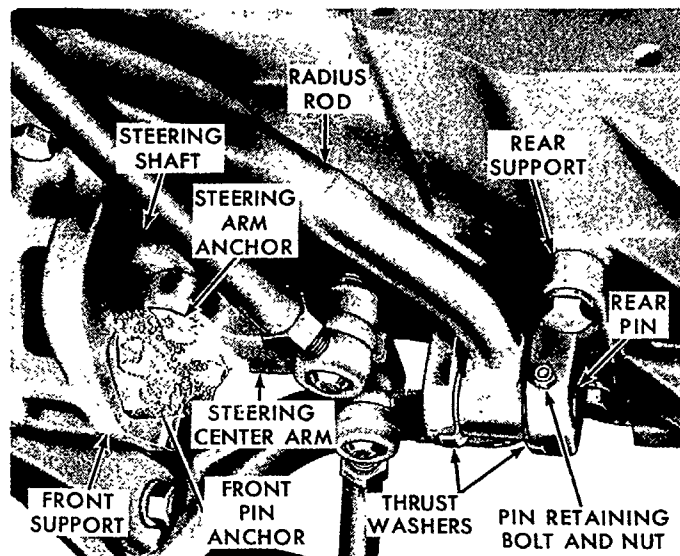

Figure 28
4. Bend the corners of the steering arm anchor, Figure 28, away from the bolt heads and remove the steering center arm-to-steering-shaft bolts and anchor.
3. Place the dust seals on the threaded ends of the connecting rod assemblies and secure each connecting rod to the rear holes of the steering center arm, Figure 28. Install the nuts and tighten to a torque of 130 to 160 lbs. ft. (17.9 to 22.0 kgm).
6. Secure the rear support, Figure 28, to the pedestal with the three lock washers and bolts. Tighten the bolts to a torque of 200 to 250 lbs. ft. (27.7 to 34.6 kgm).
8. Position the axle assembly under the tractor, aligning the pin hole in the center axle with the hole in the front support, and the pin hole in the radius rod aligned with the holes in the rear support, Figure 28.
9. Install the axle front pin through the front support, Figure 28, and the center axle. Position the front pin anchor and install the two bolts. Tighten the bolts to a torque of 35 to 47 lbs. ft. (4.8 to 6.5 kgm). Bend the corners of the pin anchor against the bolt heads, as shown, to secure the bolts.
10. Position the two thrust washers between the radius rod and the flanges of the rear support as shown in Figure 28. Install the rear pin aligning the hole in the pin with the holes in the rear support. Secure the pin by installing the bolt and nut. Tighten the nut to a torque of 23 to 29 lbs. ft. (3.1 to 4.0 kgm).
11. Align the holes in the steering center arm with the holes in the steering shaft and secure the steering center arm and the anchor with the two bolts. Tighten the bolts to a torque of 228 to 252 lbs. ft. (31.5 to 34.8 kgm). Bend the corners of the anchor against the bolt heads as shown in Figure 28, to secure the bolts.